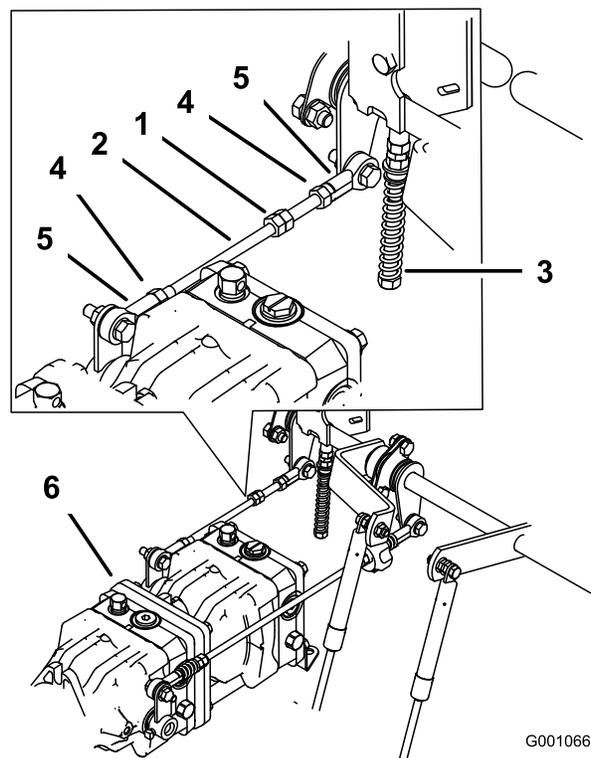

Figure 72
1. Loosen the locknuts at the ball joints on the pump control rod (Figure 72).
3. Adjust the pump rod length by rotating double nuts on rod, in the appropriate direction, until wheel is still or slightly creeps in reverse (Figure 72).
6. Tighten the locknuts at the ball joints (Figure 72).